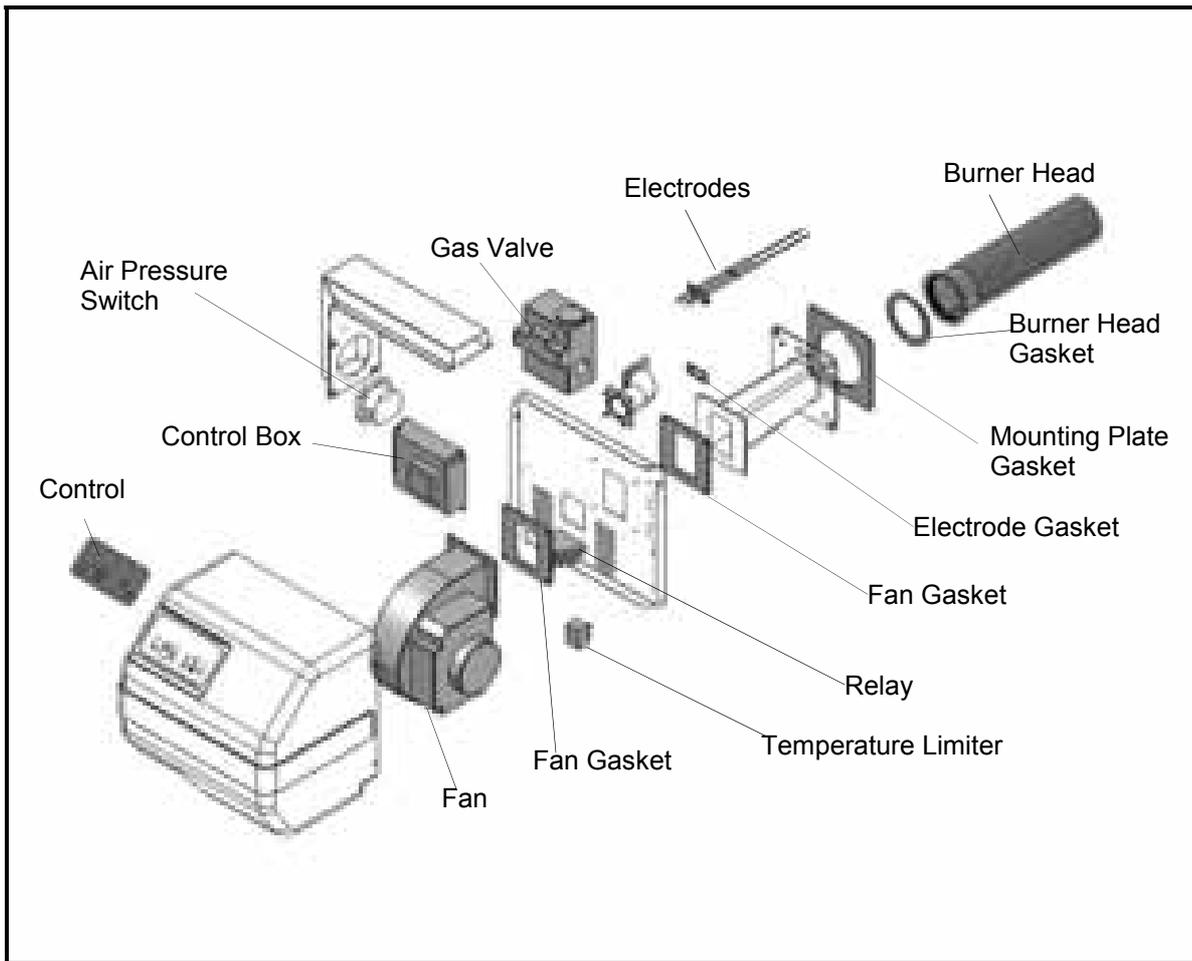

Figure 14.2 – Exploded View of Burner
14.2 – Burner Spares (Refer to Figure 14.2)